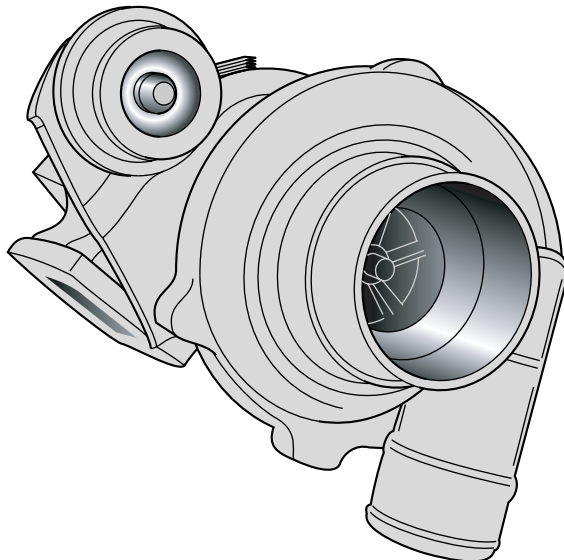

Figure 17-5:
- An *internal* wastegate (see Figure 17-5) is controlled by a wastegate actuator (which can be controlled by a boost controller) and bleeds directly into the exhaust system.